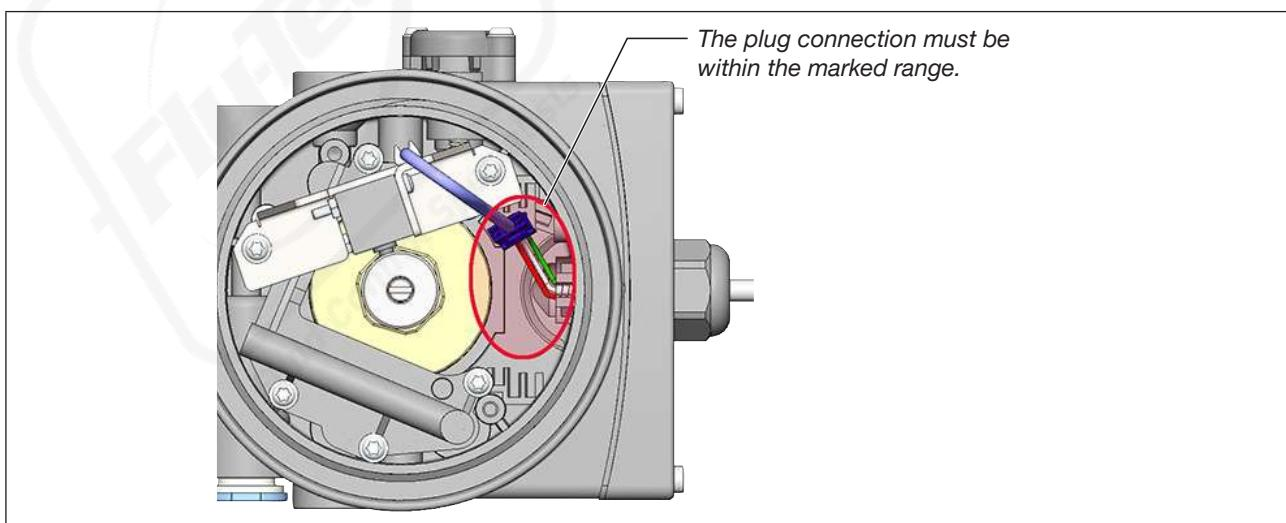

Figure 14: Position of the electrical plug connection in the position sensor
- When tightening the cable gland, pay attention to the position of the plug connection. See marked area in the following "Figure 14".